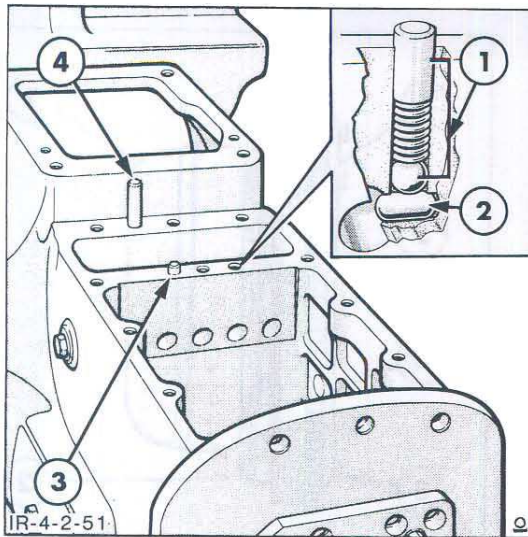

Figure 73
6. Install the interlock detent into the drilling between the 1st/2nd and 3rd/4th gearshift rail bores of the transmission inner wall, Figure 73.
10. Insert the safety start switch plunger into the respective bore, Figure 73. Insert the gearshift rail balls, springs and detents into their respective bores, Figure 73.